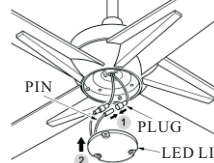

FIG.18
4. Plug together light kit wires from fan to light kit wires from LED light.(See fig.18)